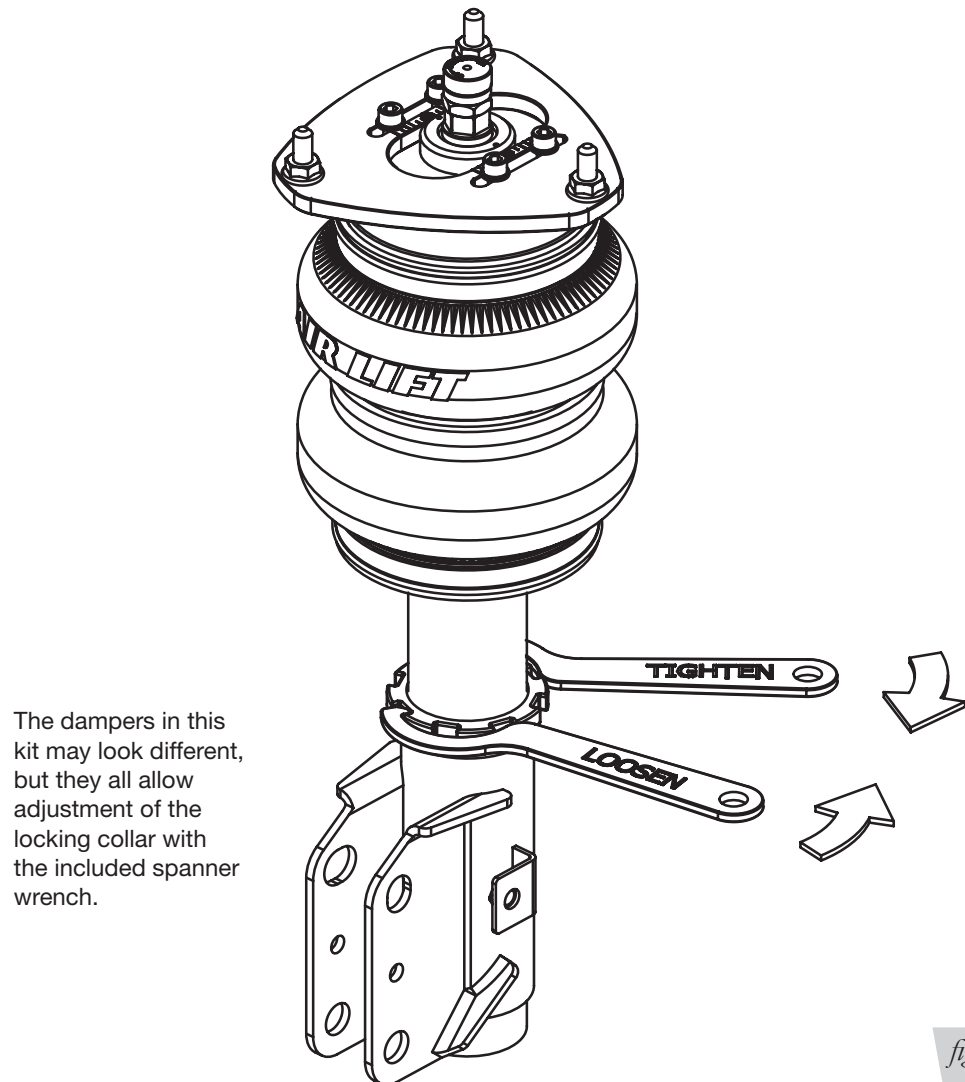

fig. 29
3. Using the supplied spanner wrench, loosen the locking collar (Fig. 29).